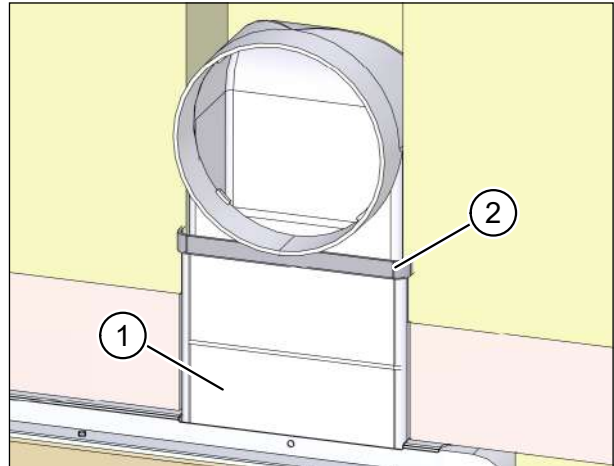

Fig. 54: Fixing ductwork connections with sealing tape
- ▶ Insert a fitting, e.g. the flat ductwork connector M-WRG-FK-V, part no. 5591 (item 1 in Fig. 54), into the opening in the wall box.
- ▶ Insert the first section of the flat ductwork into the fitting, e.g. the flat ductwork connector M-WRG-FK-V, part no. 5591, on the wall box and seal the joint with sealing tape (item 2 in Fig. 54).